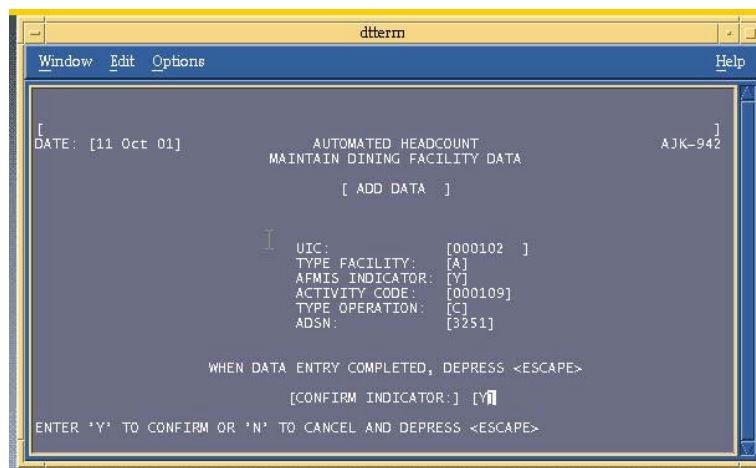

Figure 8.5-4.1 Maintain Dining Facility Data AJK942
2. Press the “Esc” key and figure 8.5-4.1 will appear